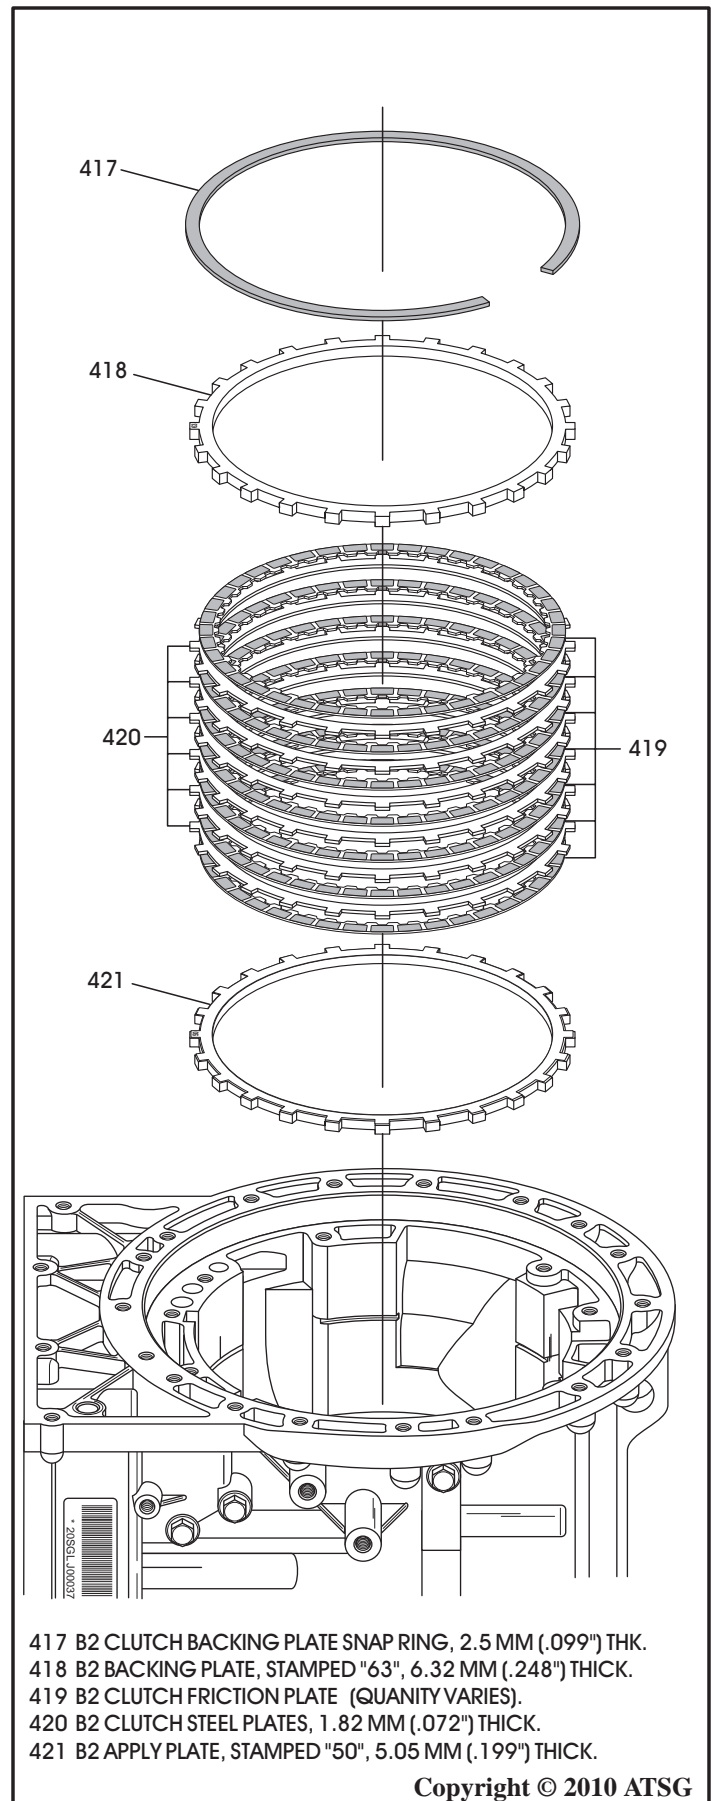
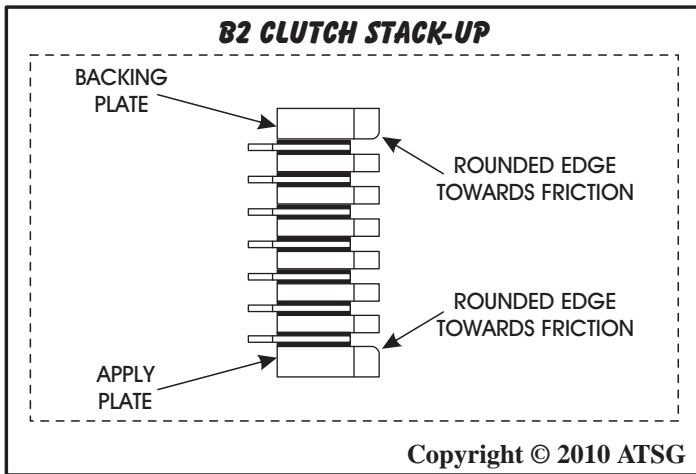

Figure 204
Figure 205
6. The entire B2 clutch pack must be *temporarily* installed, as shown in Figure 204, to verify the B2 clutch clearance.
7. Install the B2 clutch apply plate, as shown in Figure 204, with the "rounded" edge facing up towards the friction, as shown in Figure 205.
8. Install B2 clutch plates beginning with a friction and alternating with the steel plates, as shown in Figure 204, until you have the proper amount installed as quantity may vary.
9. Install the B2 clutch backing plate, as shown in Figure 204, with "rounded" edge facing down toward the last friction, as shown in Figure 205.
10. Install the B2 clutch backing plate snap ring, as shown in Figure 204, and ensure fully seated.